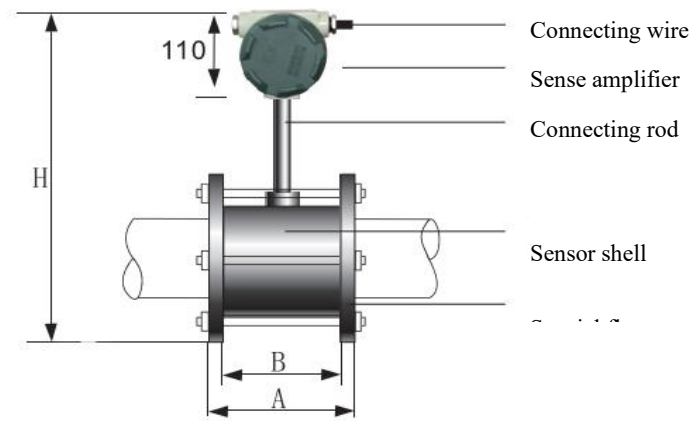

Figure 3. Overall Dimensions of Sensor
The sensor is composed of two parts of the detection meter and the detection amplifier and the connecting rod (see Figure 3). The meter and its components and connecting rod are made of 1Cr18Ni9Ti stainless steel material, with the advantages of anti-corrosion and durability, and gas protection and self-melting welding between the internal vortex generator and the meter, which is solid and durable. The external placement of the piezoelectric detection probe in the external surface can not only improve the operating temperature of the sensor and replace the probe without gas stop.
1.2 Installation and structural dimensions (see Figure 3 and Table 8)